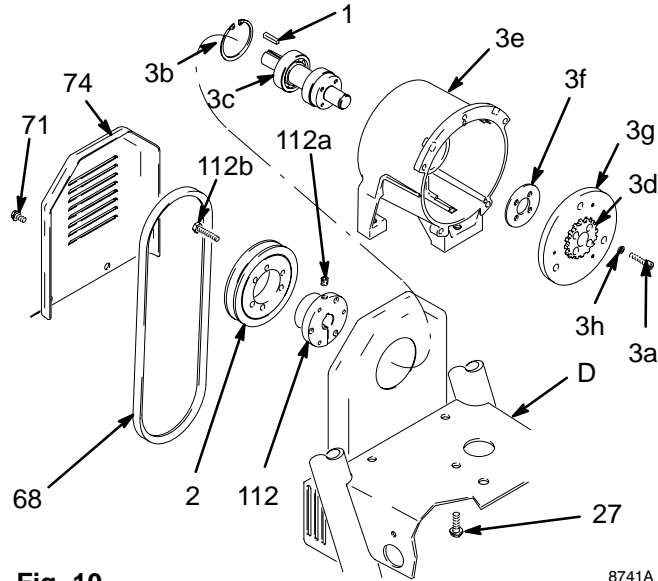

Fig. 10
8. Fig. 10. Remove drive belt shield (74) and belt (68).
9. Hold pulley (2) and remove four screws (3a) and washers (3h) from hub (3d). Remove armature (3g) and spacer (3f).
10. Remove set screw (112a) from bushing (112). Remove three bolts (112b) and three washers (112c). Use bolts to remove pulley from bushing. Remove pulley and key (1).
11. Remove three screws (27) from beneath mounting plate (D).
12. Lift off clutch housing (3).
1. Fig. 10. Install jack shaft assembly (3c). Install retaining ring (3b).